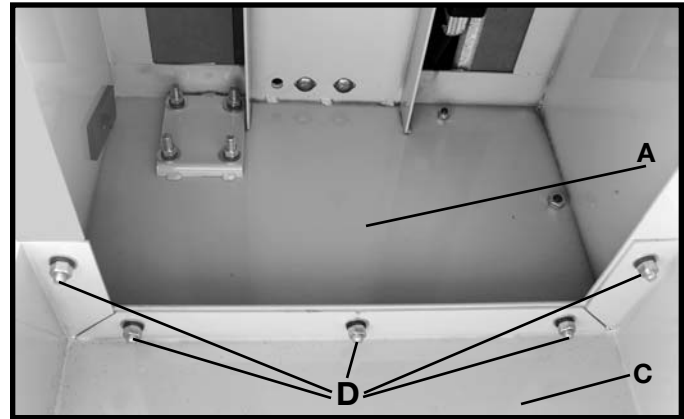

Fig. 3
1. Fasten each support leg (C) Fig. 3, to the base of the machine (A) with five 3/8-16 x 1" hex head screws, ten flat flatwashers, five lockwashers and hex nuts, (D) Fig. 3. Assemble flat flatwashers to screws, insert screws through holes in the machine base and into the two tapped holes (D) in the machine base and into the two tapped holes (C) in the back of starter box, then lockwashers, then hex nuts and tighten firmly.